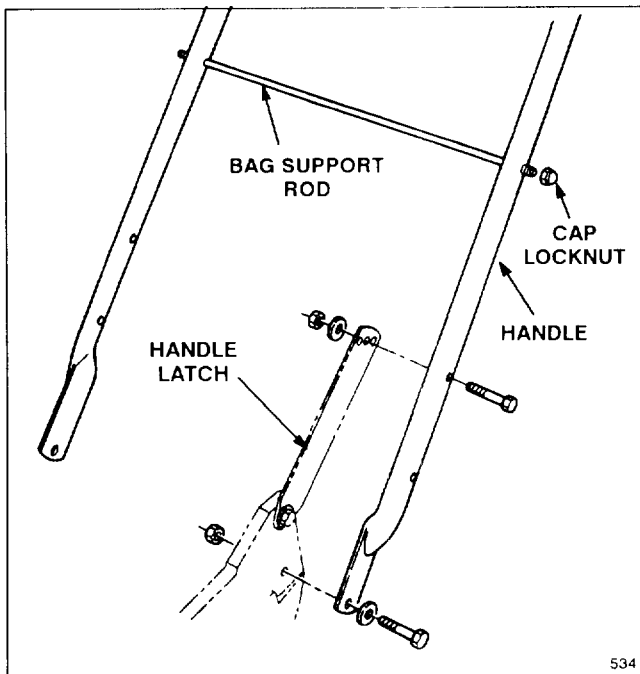

Figure 1
INSTALL HANDLE (Fig. 1)
3. Slide bag support rod thru **top** mounting holes in handle and secure each end with a cap locknut (Fig. 1).